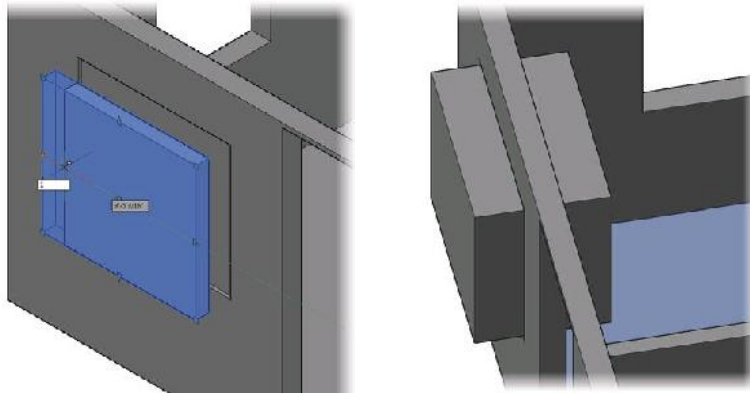

FIGURE 16.29: Moving the block-out's perimeter grips to shrink it slightly (left) and the box's increased depth (right)
16. Select each of the four outward-pointing triangular grips along the perimeter, and move them 1" (25 mm) toward the inside of the box (see the left image in Figure 16.29).
17. Click the triangular grip on the back of the box, and drag it until the box extends all the way through the back wall (see the right image in Figure 16.29).